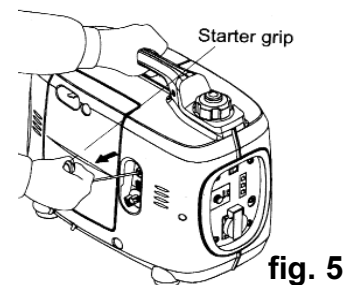

fig. 5
- 3.2.5 Pull the starter grip until resistance is felt, then pull the starter grip briskly towards the arrow, as shown in fig. 5.